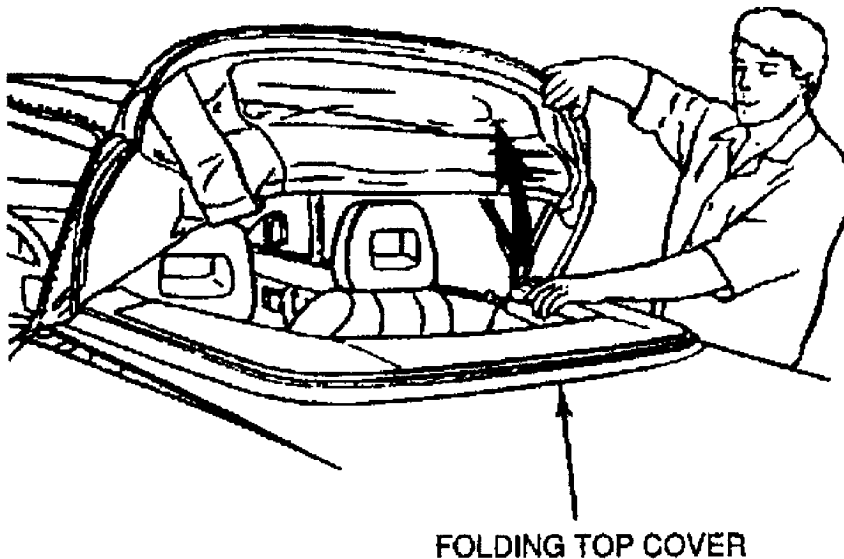

Fig. 1: Raising Rear of Top
1. Raise the rear of the convertible top, Figure 1. Refer to the Owner's Guide for detailed procedures.